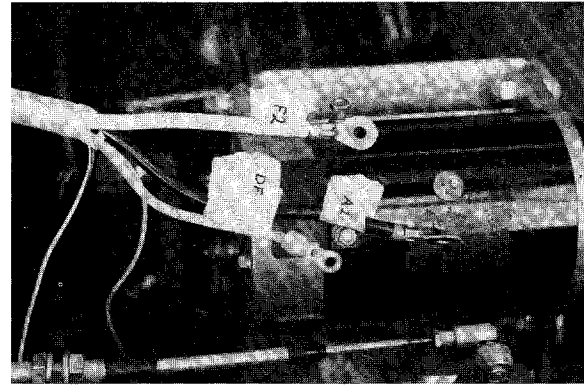

Figure 5-25
2. Disconnect wires from starter-generator. Make sure wires are marked for reassembly (Figure 5-25).